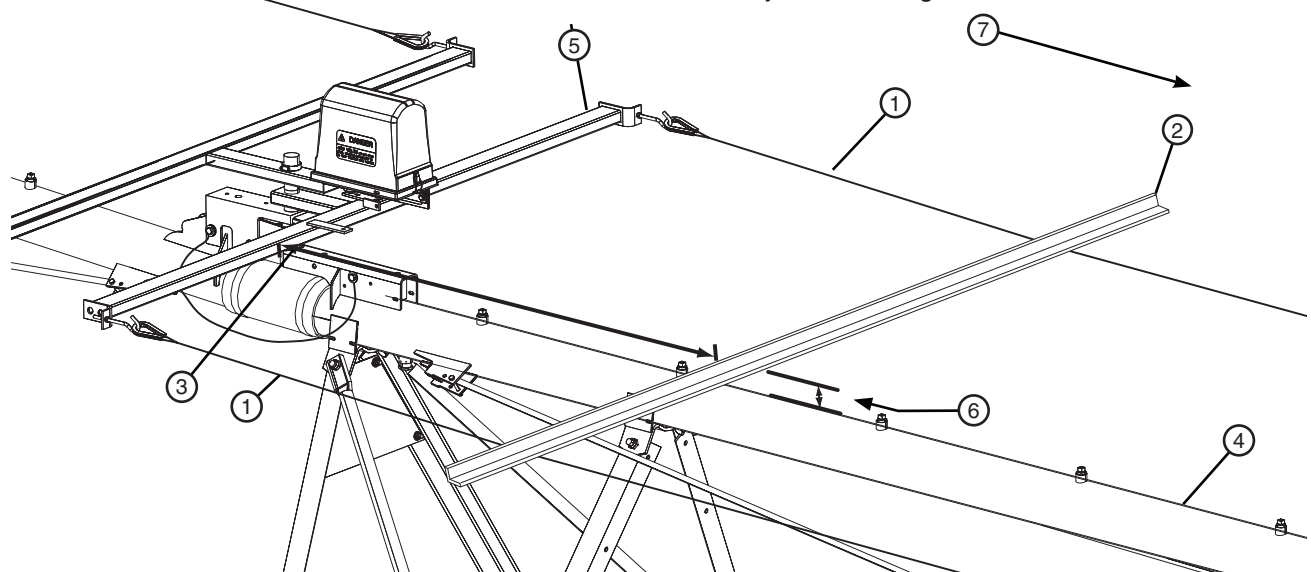

Figure 87-2 1. Alignment Cable 2. Truss Spreader 3. Ball and Socket Joint 4. Span Pipe 5. T Bar 6. Deflected Measurement 7. Pivot
8. Measure and record the distance from the truss spreader to the span pipe. This is the DEFLECTED measurement. See figure 87-2.
9. Subtract the DEFLECTED measurement from the ORIGINAL measurement. The difference should be approximately 1-3/4 in to 2 in (41 mm to 51 mm), if it's not, the hook bolts should be adjusted. See figure 87-2.